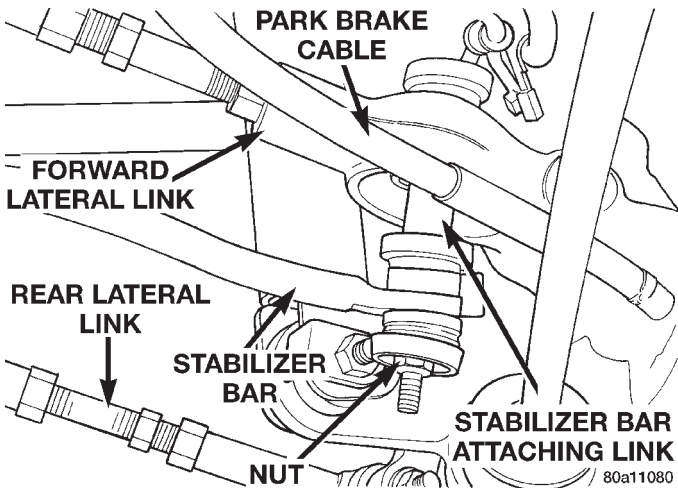

Fig. 40 Stabilizer Bar Attaching Link
(1) Raise vehicle on jackstands or centered on a frame contact type hoist. See Hoisting in the Lubrication and Maintenance section of this manual, for the required lifting procedure to be used for this vehicle.
(2) Remove both rear wheel and tire assemblies from the vehicle.
(3) Remove the nuts (Fig. 40) attaching the stabilizer links/isolator bushings to the stabilizer bar.